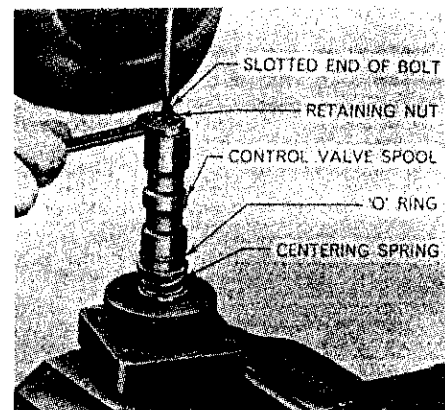

Fig. 38—Valve spool bolt has screwdriver slot in threaded end to facilitate removing and installing spool retaining nut.
37). Separate the power cylinder from control valve and slide the valve housing (27) from valve spool. Place the ball socket and valve spool unit upright in vise as shown in Fig. 38. Remove cotter pin from valve spool bolt (35)—Fig. 37, hold bolt from turning with screwdriver and remove the castellated nut (23) and flat washer (24). Remove valve spool (28), washers (30), centering spring (31) and spacer disc (32) from bolt. Remove "O" ring (25) from valve housing and "O" ring (29) from valve spool. Remove check valve pin (21) with a stiff wire, then remove check valve ball (22) from valve housing. Remove "O" ring (20) from valve pin.